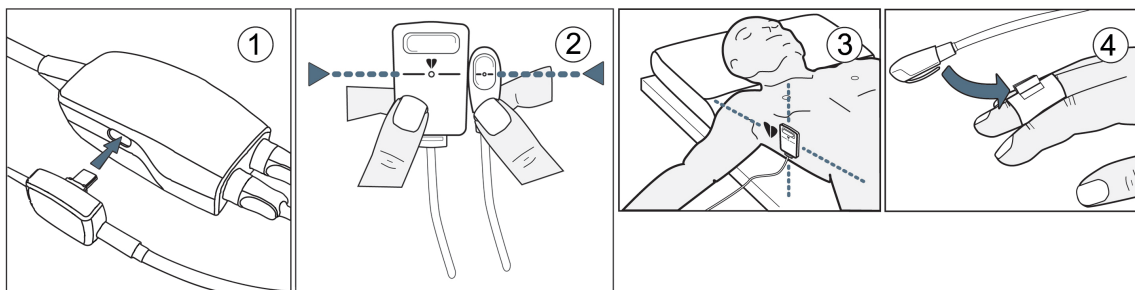

Figure 11-4: Heart reference sensor application
1. Connect the HRS to the pressure controller. See (1) in Figure 11-4 on page 195.
2. Vertically align both ends of the HRS and touch the zero button. See (2) in Figure 11-4 on page 195.
4. Apply the heart end of the HRS to the patient at phlebostatic axis level by using an HRS clip. See (3) in Figure 11-4 on page 195.
5. Attach the other end of the HRS to the finger cuff. See (4) in Figure 11-4 on page 195.